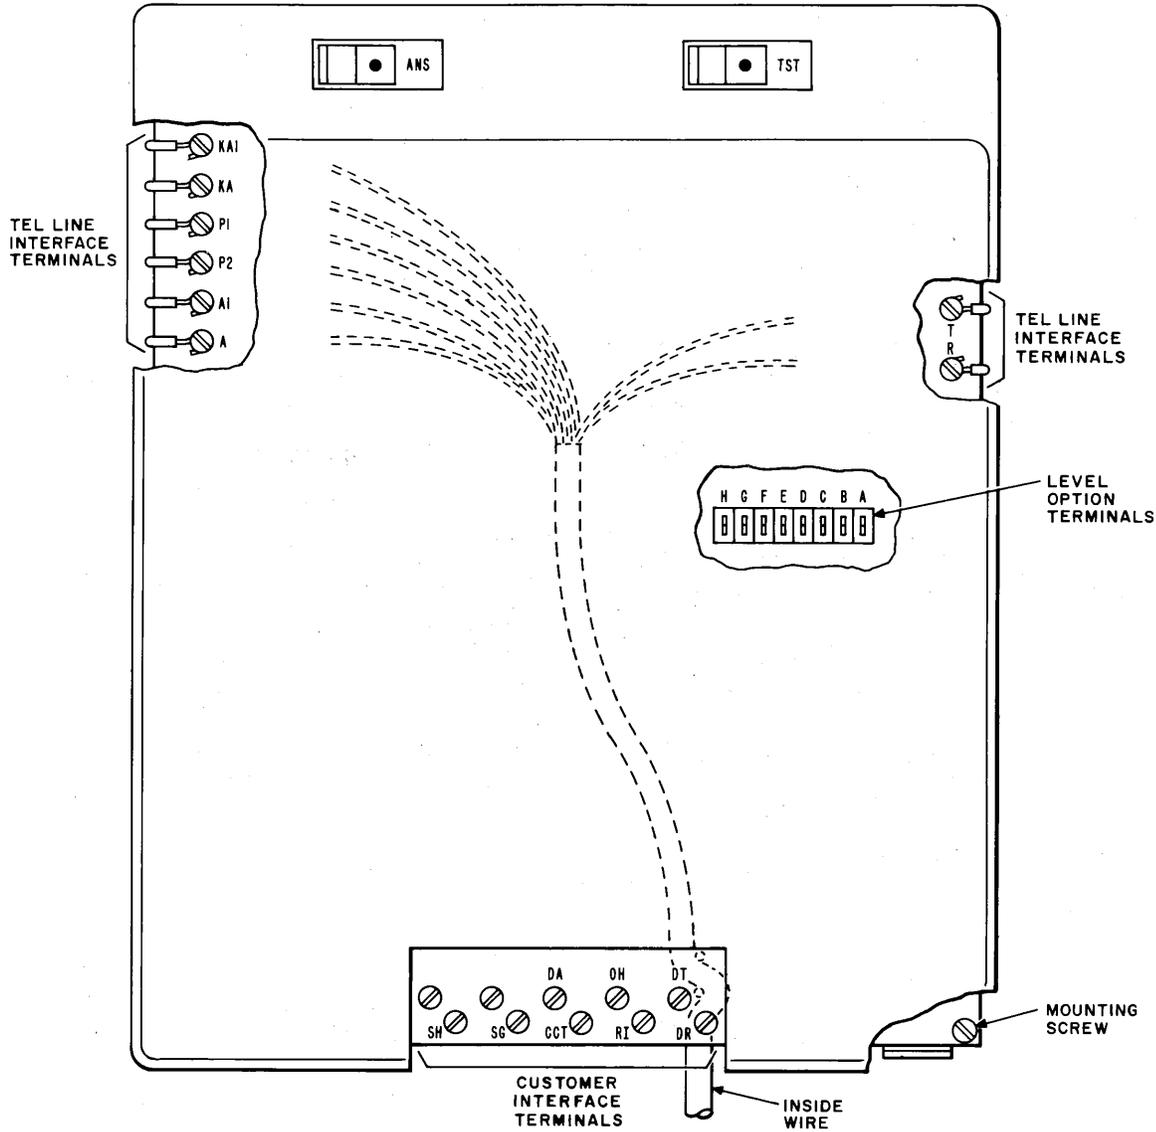

Fig. 2—Route of Station Wiring and Location of Terminals
2.02 Circuitry for the coupler is mounted on a single printed CP. Eight screw terminals at the lower end of the CP provide the interface for connection to customer equipment (Fig. 2). Two additional unmarked terminals are open-ended (not connected) on the board and provide extra tie points when required. Interface control leads use EIA RS-232-B voltage levels. See Table A for lead designations. The cord required for connecting the customer modem to the interface must be supplied by the customer.